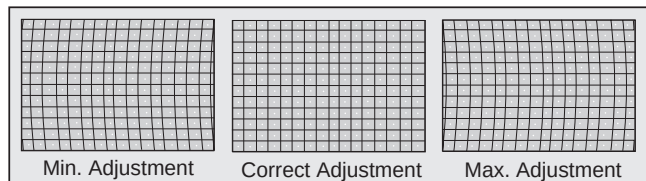

Figure 33. SIDE adjustment
1. Enter service mode, select "SIDE" and adjust so that lines at right and left are vertical like solid line. (see Fig. 33)